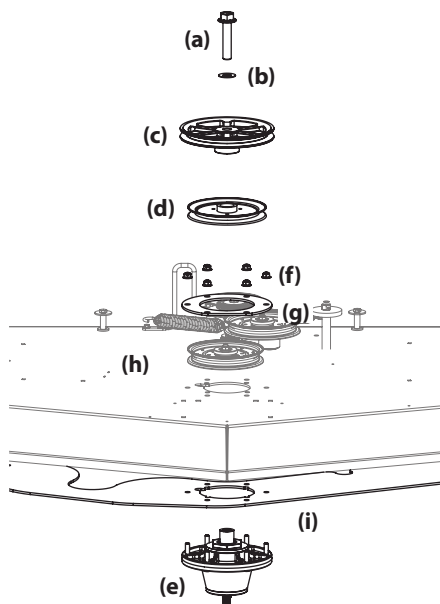

Figure 52
8. Remove the hex flange bolt (a) and flat washer (b) securing the drive pulley (c) and center spindle pulley (d) to the spindle assembly (e). See Figure 52.
9. Remove the six (6) flange lock nuts (f) securing the center spindle pulley (d), spindle assembly (e) and the support plates (g) to the deck shell (h). See Figure 52.